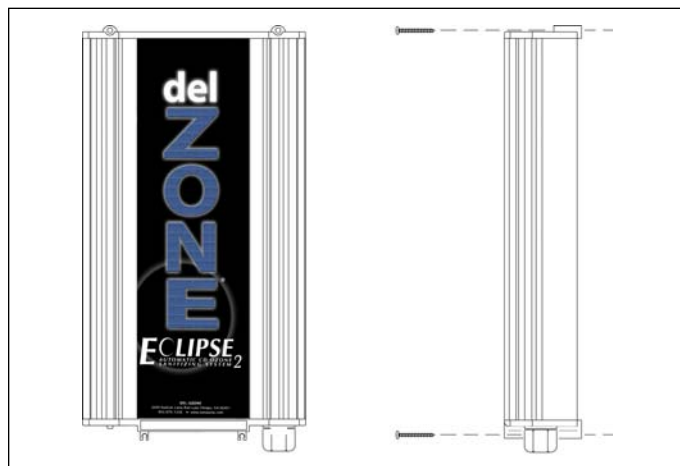

Figure 1 Wall Mount
- A pressure wire connector is provided on the outside of the unit to permit connection to a minimum No. 8 AWG (8.4 mm²) solid bonding conductor between this point and any metal equipment, metal enclosures of electrical equipment, metal water pipes, or conduit within five (5) feet (1.5m) of the unit as needed to comply with local requirements.
- Install at least 5 feet (1.5 meters) from wall of pool water using nonmetallic tubing. Install ozone generator no less than one (1) foot above maximum water level to prevent water from contacting electrical equipment. Install in accordance with the installation instructions.
- The DELZONE® Eclipse must be installed in an outdoor location, or indoors in a forced air ventilated room, and installed so that the orientation is exactly as shown in Figure 1. Install to provide water drainage of generator to protect electrical components.
The DELZONE® Eclipse units are designed for wall mounting. **See Figure 1.** Mount generator in a clean, protected area, either indoors or outdoors (Preferrably out of direct Sunlight). Locate generator out of reach of sprinklers or drainage spouts. Allow sufficient access for maintenance and all tubing and electrical wires. Ozone generator should be installed at least (not less than) one foot above the maximum water level. **Note:** Injector manifold needs to be installed after all other equipment or possible failure may occur.
1. Refer to Figure 1 to mark the locations for the four mounting screws.